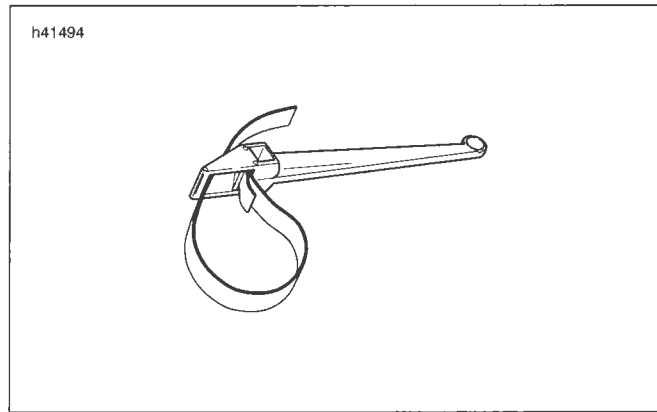

Figure 2-11. Hub Cap Tool
3. Install left and right hub cap seals (2, 24) and hub caps (1, 25) using HUB CAP REMOVER/INSTALLER (Part No. HD-41494). See Figure 2-11. Tighten until hub cap makes contact, then tighten 1/4 turn more.